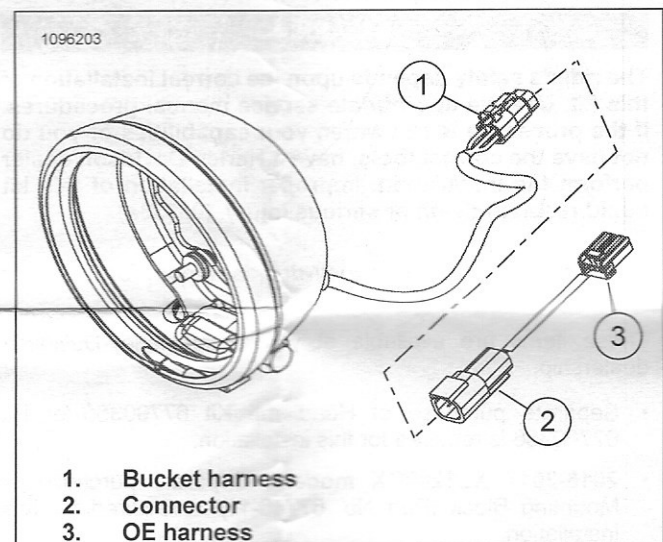

Figure 2. Harness Connection
7. Mount completed bucket/headlamp assembly to mounting block (16) with screw (7) and two washers (8).
8. See Figure 2 Connect harness (2) to connector (1) on back of bucket assembly and OE harness (3).